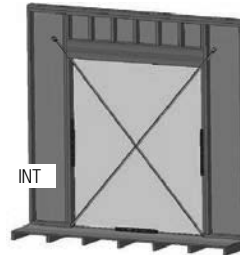

FIG. 1
- Verify the rough opening is flat, plumb, level and square. (Fig. 1)
- Take diagonal measurements to check for square. (Fig. 1)
- Make sure the bottom sill area of the rough opening is flat and level. Correct rough opening if sloped toward the interior, out of level, or humped. (Fig. 1)